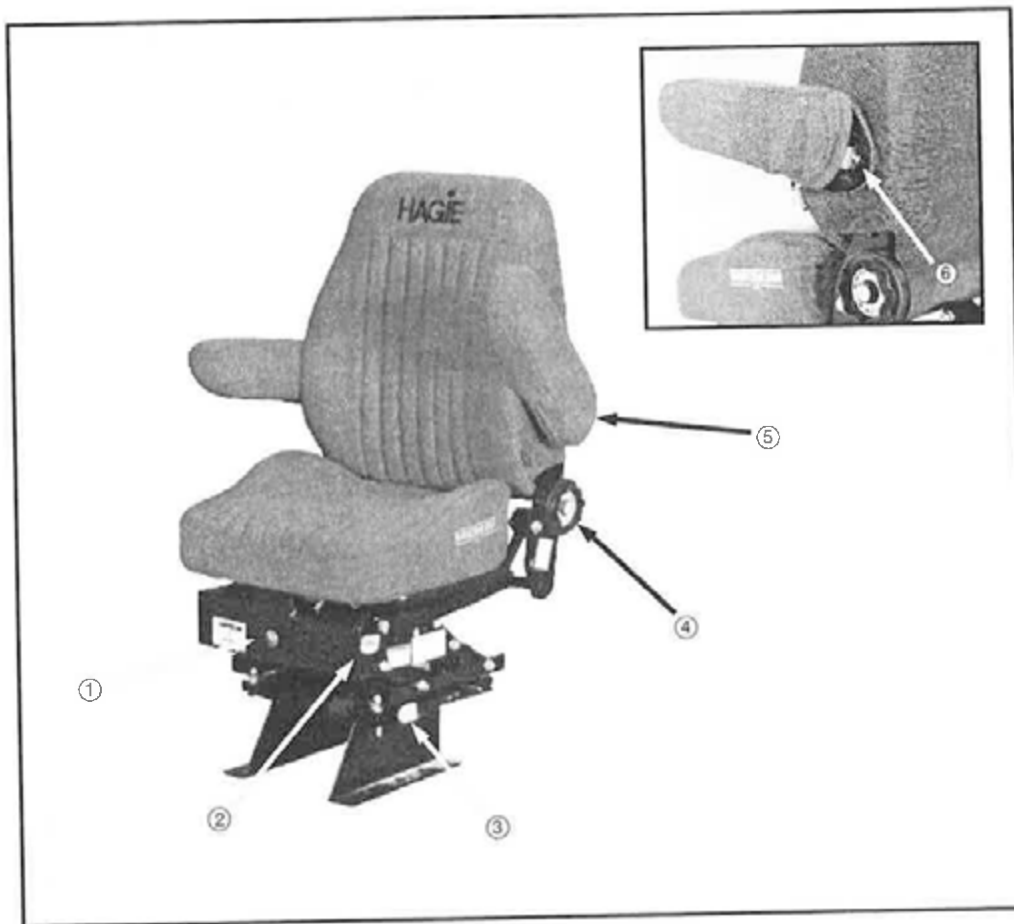

FIG 5.89
- 5- **Armrest Adjustment.** Unzip either armrest to expose the armrest adjustment bolt. Turn bolt in to raise armrest tilt and out to lower armrest tilt (fig. 5.89, item 6).